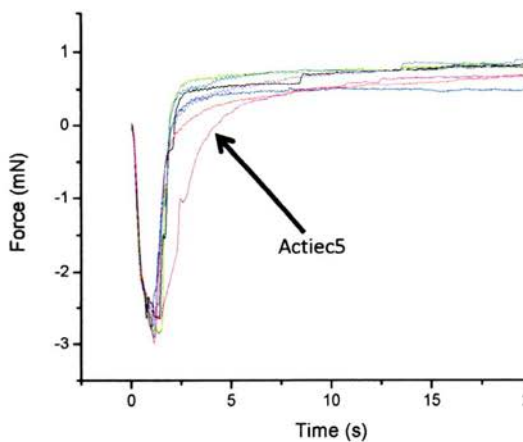

Figure 3
**Figure 3** shows the solder wetting traces for 5 repeated DES flux and compared with that of the standard flux Actiec5. This is a mildly activated rosin based flux, commonly used in solder wetting balance testing.15 For all traces an initial rapid decrease in force measurement to a value close to -3 mN is seen due to the buoyancy effect exerted on the sample caused by the high density of the solder which the Cu wire has been immersed in. Once solder wetting starts to be observed on the substrate the force starts to increase due to the formation of a solder bond. The rate at which this increase occurs provides direct quantitative measurement of the rate of substrate wetting by the solder.
**Figure 3:** Solder wetting balance traces for untreated copper wire coated with DES solder flux and immersed in SAC 305 at 250 °C. The black line labelled is for a standard rosin based flux, Actiec5, and the rest of the traces are repeated measurements for the DES flux.